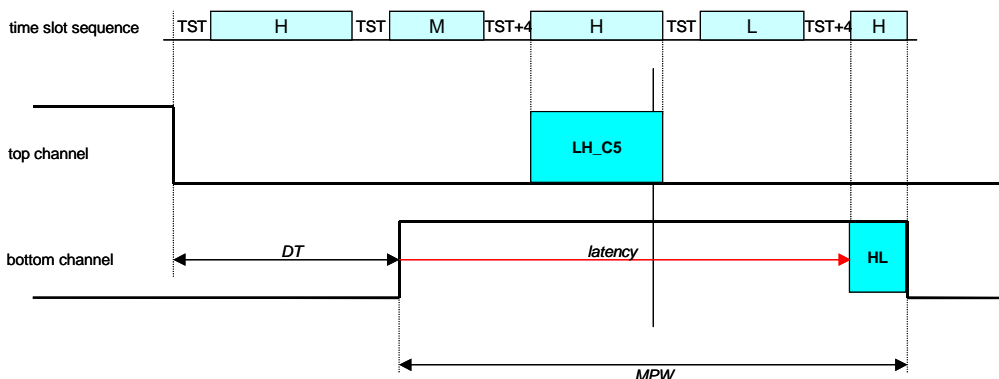
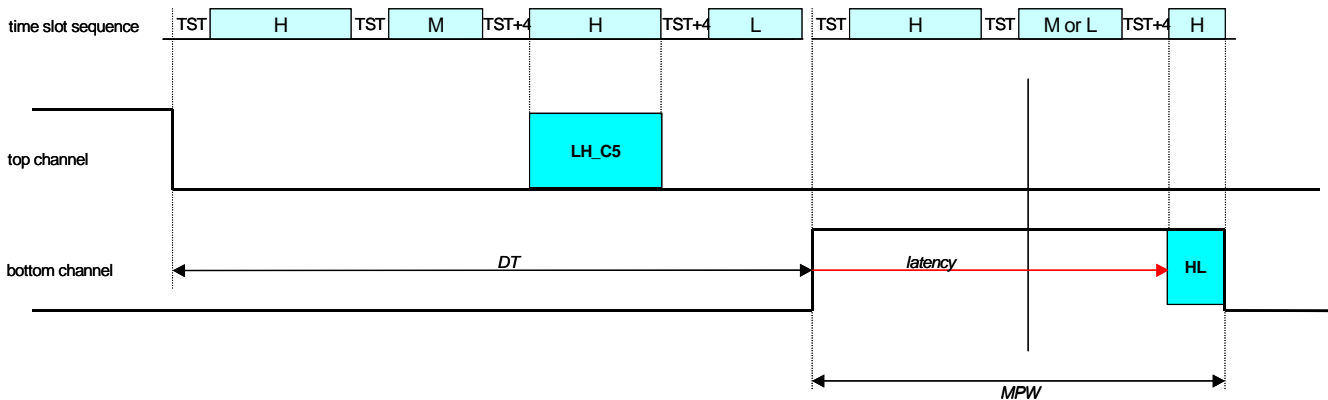

Figure 8. Worst case timing – case one
Figure 9. Worst case timing – case two
In this instance, one of the two worst case timing cases can happen. These are illustrated in **Figure 8** and **Figure 9**. Which case occurs depends on the DT .
- The first case can occur when the *DT* (in IMB clock cycles) is less than $TST + H + TST + M + TST+4 + LH_C5 + TST+4 + L$ (see Figure 9) that is $4 * TST + 8 + H + M + L + LH_C5$ that is $84 + H + M + L$ IMB clock cycles.
- In **case one** the *MPW* is (according to Figure 8)
- In **case two** the MPW is (according to **Figure 9**)